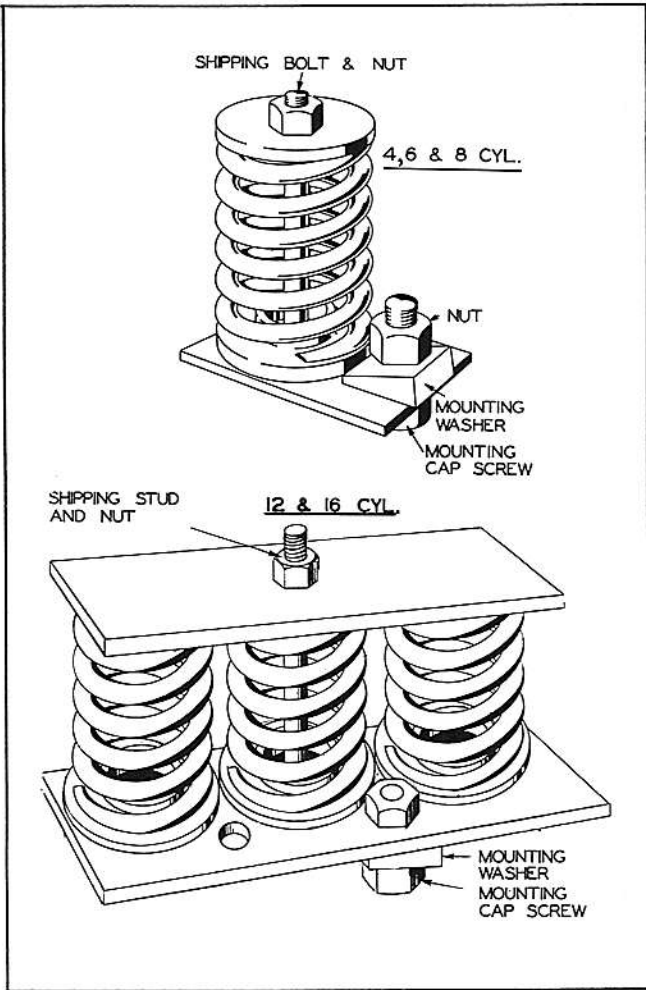

Fig. 12 - Vibration Isolator Assemblies
Upper Floor - For upper floor mounting, spring type isolators are available when ordered. Fig. 12 shows the three spring assembly used for the 12 and 16 cylinder units and the single spring assembly used for 4, 6 and 8 cylinder units. Do not use corkboard under these units.
- (a) Only single spring assemblies are used. (See Fig. 12)
- (c) The shipping bolt, mounting washer and cap screw must be removed before applying these isolators. (See Fig. 12)